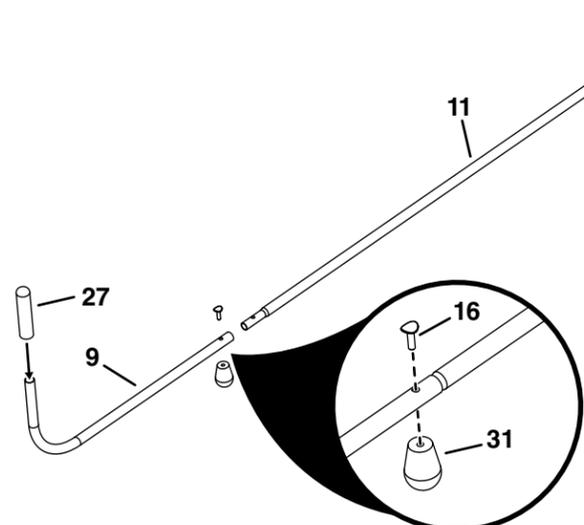

Figure 17
STEP 17 (SEE FIGURE 17): Assemble the upper handle tube (11) to the lower handle tube (9) using a 1/4 x 1" bolt (16) and knob (31). Then, assemble the handle grip (27) to the lower handle tube (9).